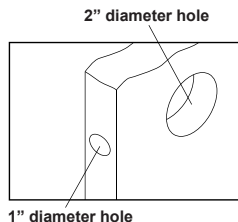

Fig. 15
Step 2. Bore a 54mm (about 2" or 2 1/8") hole on door face, then drill a 25mm (about 1") hole into the edge of the door so that it intersects with the larger hole (Fig. 15).
- (N)** • When drilling the 54mm (about 2" or 2 1/8") hole, it's recommended to drill from both sides of door to stop the wood from splintering.